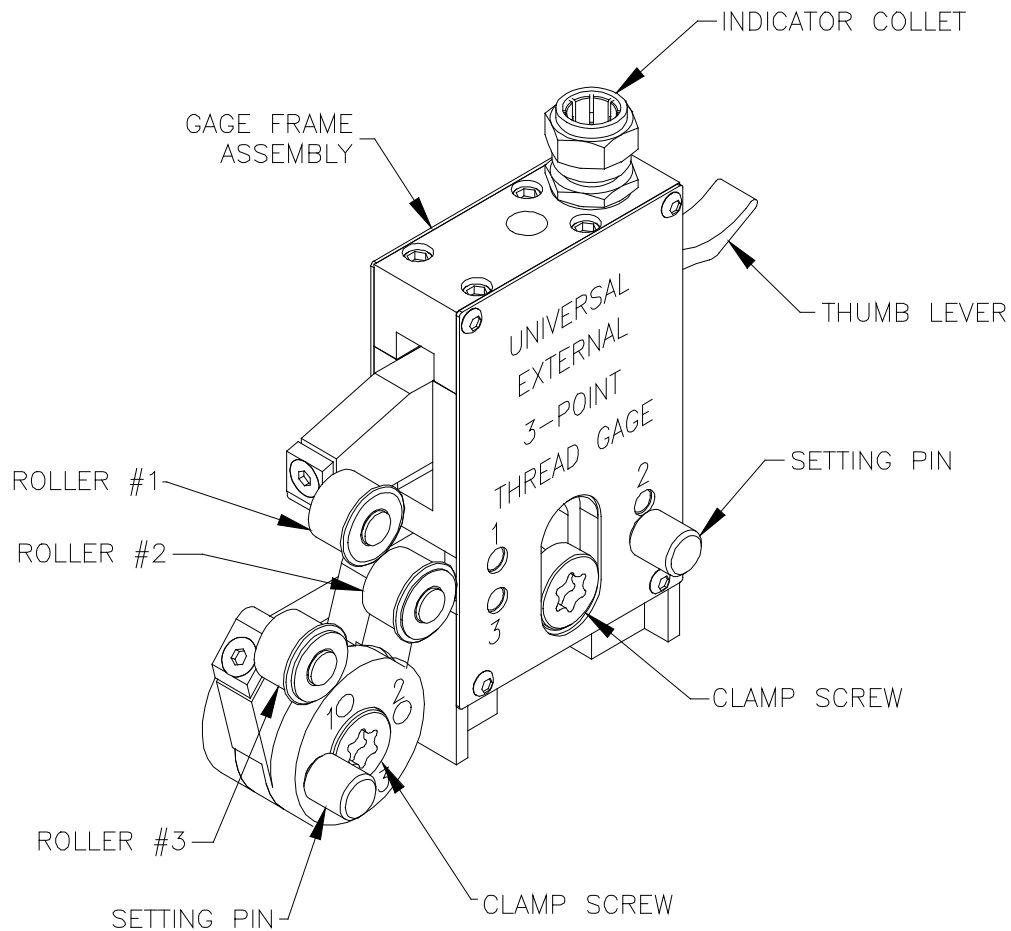
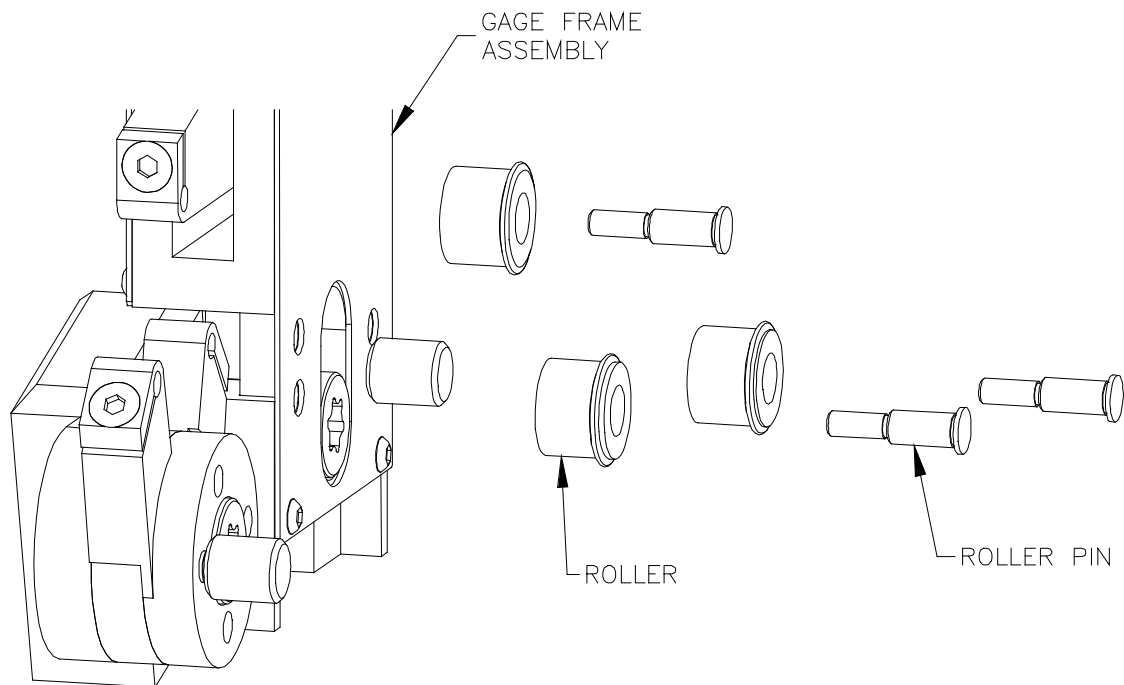
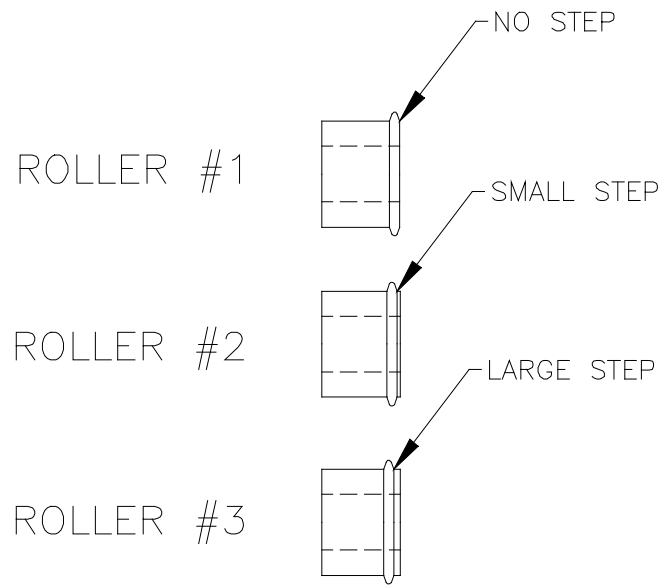

Figure 1
Figure 2
Figure 3
When installing the Rolls on the Gage, the placement of Rolls #2 and #3 depend on the type of threaded feature being inspected. Figure 1 shows the placement of the Rolls for a right-hand thread. If a left-hand thread is to be inspected, the positions of Rolls #2 and #3 shall be switched. For proper identification of Rolls, See Figure 3.
A particular set of Rolls consists of three pieces. Each piece (Roll) has been identified with a #1, #2 or #3 on the body. Figure 3 shows the difference in the three Rolls within a set and how they can be identified.
Loosen the flat head screw on each of the Swing Arms and on the Clamp Arm. Insert the Roller Pin through the Roller as shown in Figure 2 (small end of Pin extends out of Roller). Insert Roller / Pin into the correct position in the Frame (See Figures 1 and 3) and tighten the screw. Ensure that the Roller rotates freely and does not bind.
1. Loosen the two Clamping Screws located on the Swing Arms and the Frame (See Figure 1)